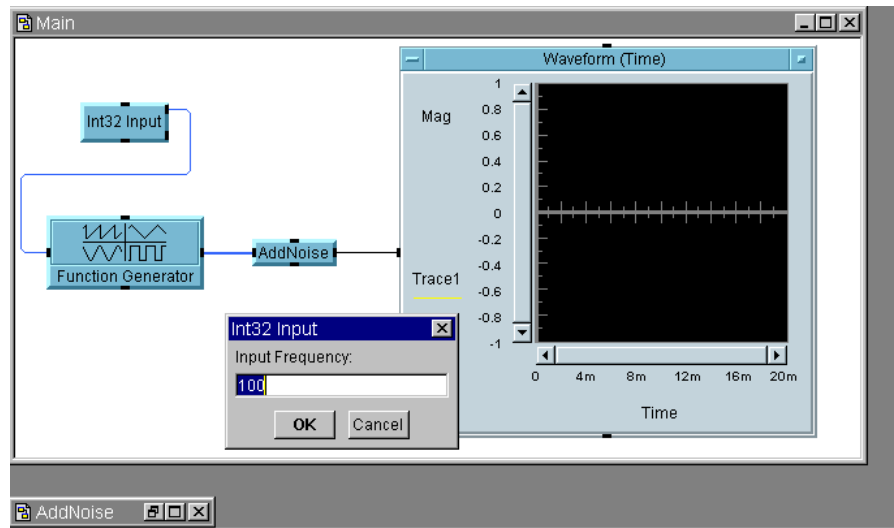

Figure 2-8. Runtime Pop-Up Input Box
5. Run the program. The input box for Int32 Input appears, with the instruction `Enter Frequency:`. Try running the program with different frequencies in the input box. See Figure 2-8, shown at run-time with the pop-up input box. Simply click and drag the pop-up box to control where it appears.